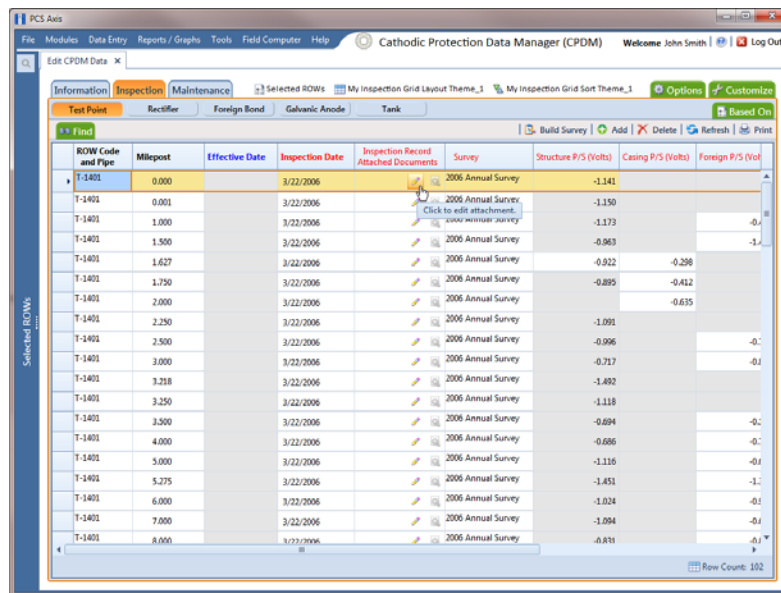

Figure 7-103. Attached Document Field
- 5 Click the edit icon  in the **Attached Documents** field for the grid record you plan to attach a document (Figure 7-103).